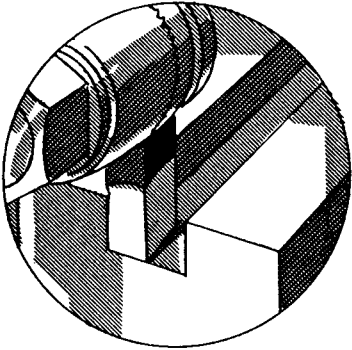

FIG. 463
15. Stop the machine. Use a scale or a gage block to measure the width of the slot, and, when the correct setting of the tool has been obtained, cut down to within about $.003$ " of the full depth of the slot (Fig. 463).